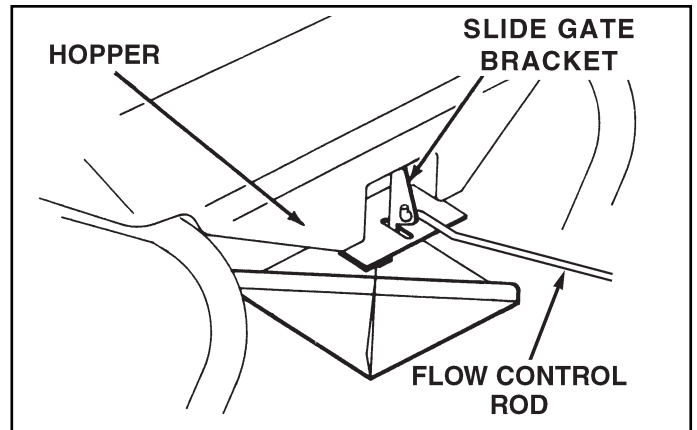

FIGURE 10
20. Hook the double bent end of the flow control rod through the hole in the slide gate bracket located near the bottom of the hopper. See figure 10.